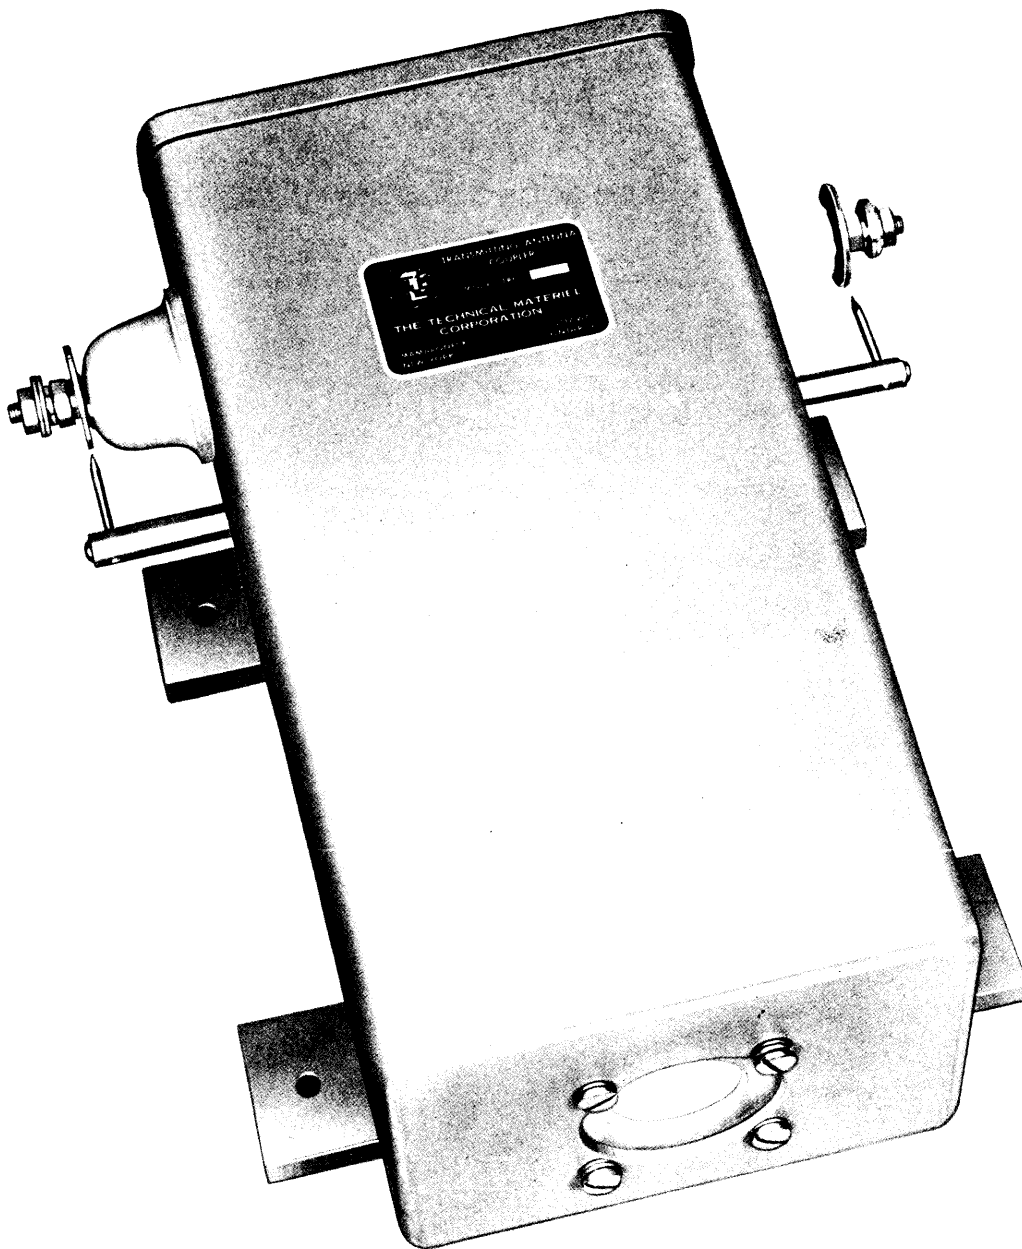

Figure 1. Transmitter Antenna Coupler, Model TRC-5000
a. PURPOSE. Model TRC-5000 (figure 1) is a broadband transmitting coupling transformer used for matching coaxial transmission lines to Rhombic or other antennas requiring a 600 ohm impedance.